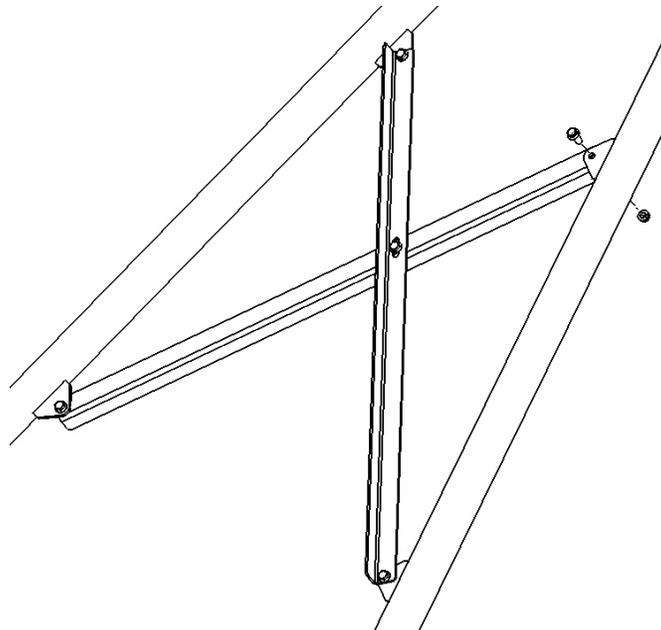

Fig. 14.1
When assembling a T1332 & T1342 "X" bracing is required on the lift arms. Attach the bracing to the lift arms using (10) 3/8" x 1" hex flange bolts & flange nuts. Cross the braces as shown in fig. 14.1.